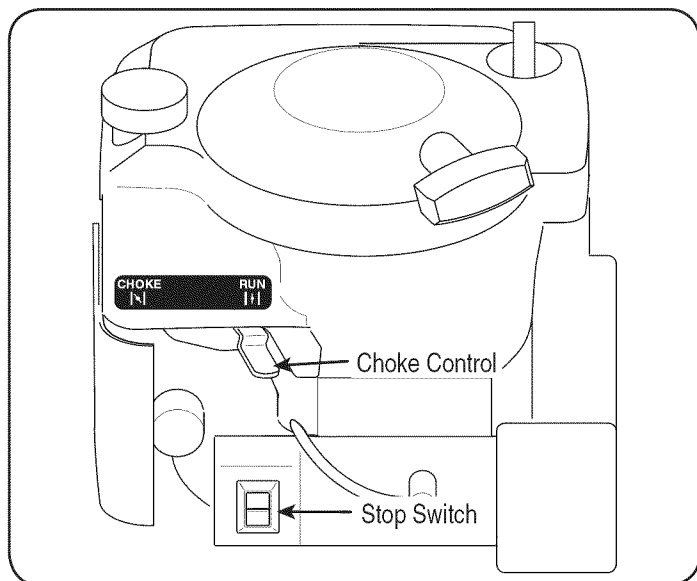

Figure 10
3. Push the stop switch to the ON position. See Figure 10.
4. Move the choke lever to the CHOKE  position. (A warm engine may not require choking.) See Figure 10.
1. Push the stop switch to the OFF position. See Figure 10.